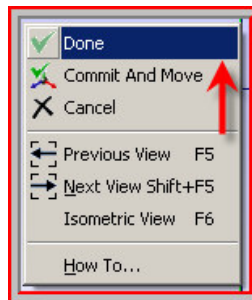

Figure 05 – Selection option
Step 06: Now right click and select done if the values of X and Y are correct as shown in figure 05. In case you need to alter you can click on the dimensions and change them accordingly.